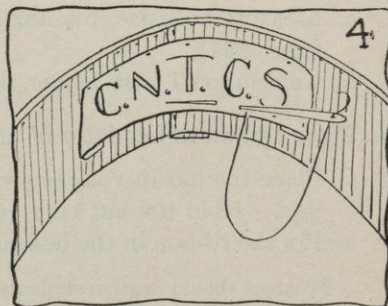

FIG. 4.
- (1) Sew tip in the hat, so that it does not span across the crown, and so that the stitches do not come through to the outside of the crown, by starting with one stitch in a corner of the square, and then taking a stitch on that side of the square, and continuing with the next corner, then the next side, and so on, until the entire tip is sewed in place (see Figure 4 A). **These stitches must not go through to the outside of the hat, and they must not be too tight.** If they are too tight, they will draw the crown out of shape.
(2) Do not paste crown tip to the crown unless the material of the crown is fairly thick. The paste might come through thin material, and spoil it.
(a) Put a tiny dab of paste in each corner of the lining and under the center of the name tip (see Figure 4 B).
- Pin name tip over the joining of the ribbon at the back of the headsize (see Figure 4).
- Sew the entire name tip in place with tiny stitches, so that no stitches show (see Figure 4).